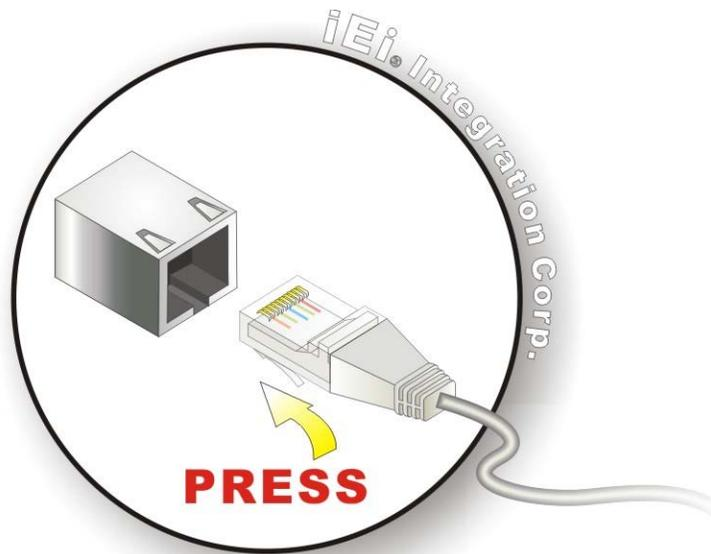

Figure 4-19: LAN Connection
Step 2: **Align the connector.** Align the RJ-45 connector on the LAN cable with the RJ-45 connectors on the bottom panel of the AFL2-12A-HM65. See **Figure 4-19**.